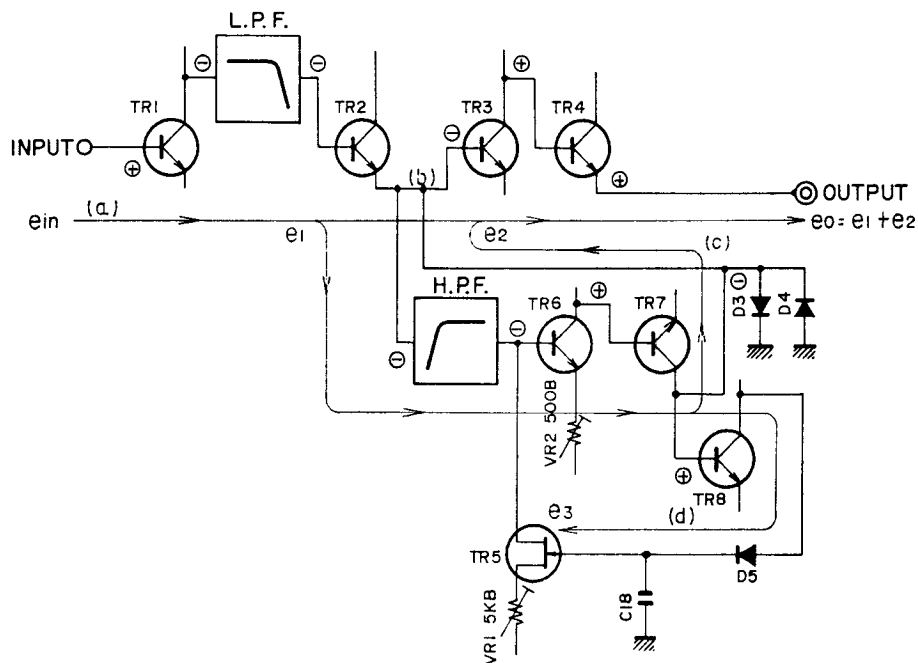

Fig. 27
## 1. RECORDING DOLBY NR CIRCUIT OPERATION (See Figs. 27 and 28)
- 1) As shown in Fig. 27, at recording time, the input signal passes TR1 and the low pass filter and is supplied to the base of TR2.